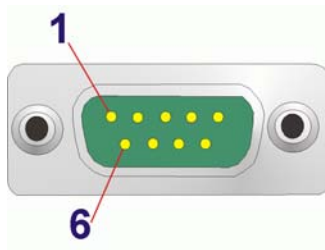

Figure 4-24: COM1 Pinout Locations
- CN Pinouts:** See **Table 4-24** and **Figure 4-24**